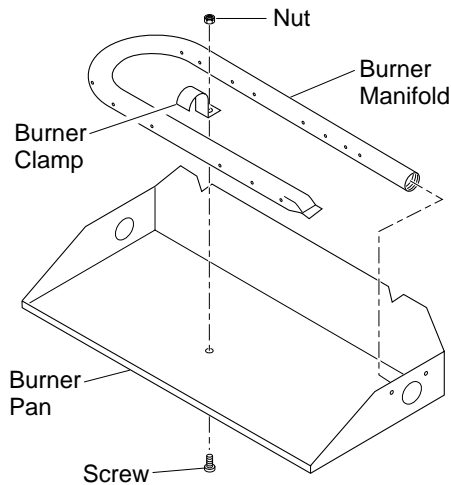

Figure 9 - Installing Burner
5. Using burner clamp, screw, and nut provided, assemble clamp to pan (“U” style burners only). This will hold the burner manifold in place (see Figure 9).